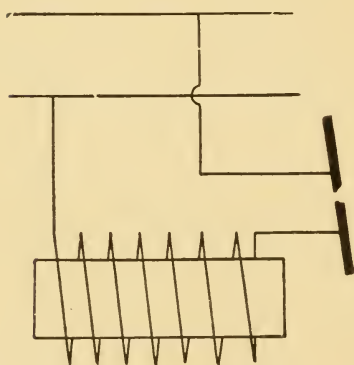

FIGURE 77
In Fig. 77 we see diagrammatic representation of what is known as a "choke" or reactance coil. (4) It consists of a bar of iron (usually built up from thin sheets of metal insulated from each other by means of an insulating, incombustible paint) upon which is wound turns of insulated wire few or many in number, according to the effect desired and the voltage it is to oppose.
(5) This reactance offers what is commonly termed "magnetic kick," which is another term for magnetic reactance. The scientific definition of reactance is as fol-